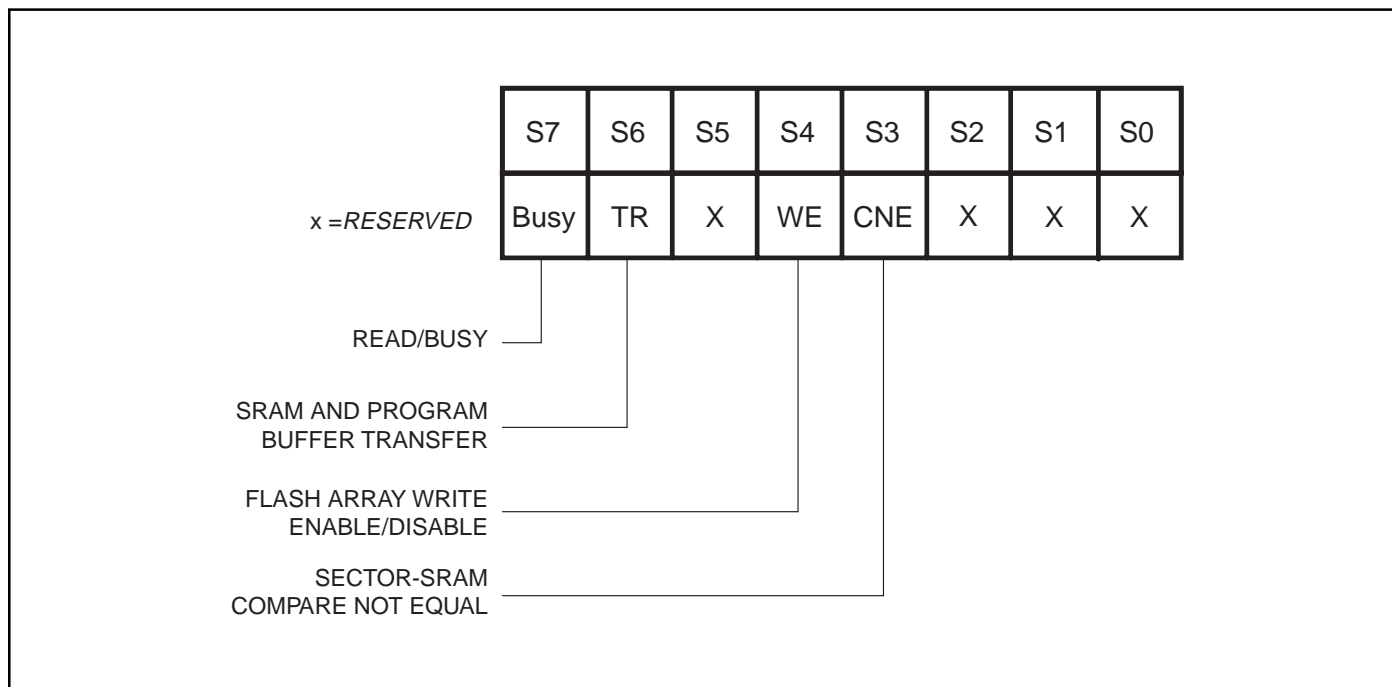

Figure 8. Status Register Bit Locations
The Status Register provides status of the Flash array's Ready/Busy condition (R/ $\overline{\text{B}}$), transfers between the SRAM and program buffer (TX), Write-Enable/Disable ($\overline{\text{WE}}$), and Compare Not Equal (CNE). The register can be read using the *Read Status Register* command (Figure 8).